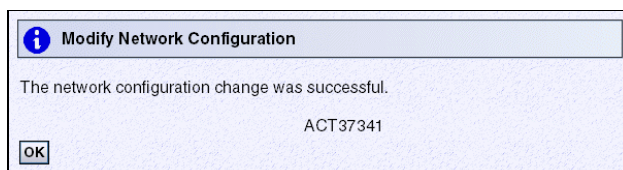

Figure 6-72 Modify Network Configuration
2. The Network Configuration Change Confirmation message ACT37357 displays. Click **Yes**. Message ACT37341 displays (Figure 6-72).